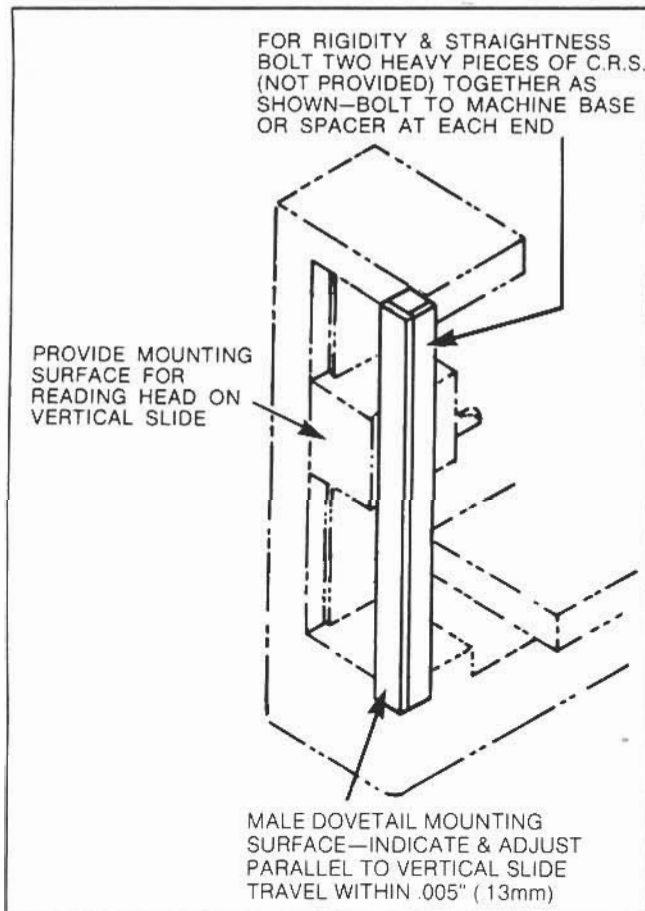

Figure 10. Suggested Method of Providing Back-Up Spar for Male Dovetail Spar on Z-Axis
- a. Position your vertical slide at the center of its travel and lock it in this position. Hold the scale assembly against the machine to determine the best mounting position. The reading head casting should be mounted to the vertical slide and the male dovetail spar should be mounted to the machine base. A back-up spar (not provided) may have to be mounted to the machine base to provide a flat and true mounting surface for the male dovetail spar (see Figures 10 and 11). For greatest accuracy, mount the spar and scale case assembly as close to the spindle travel as